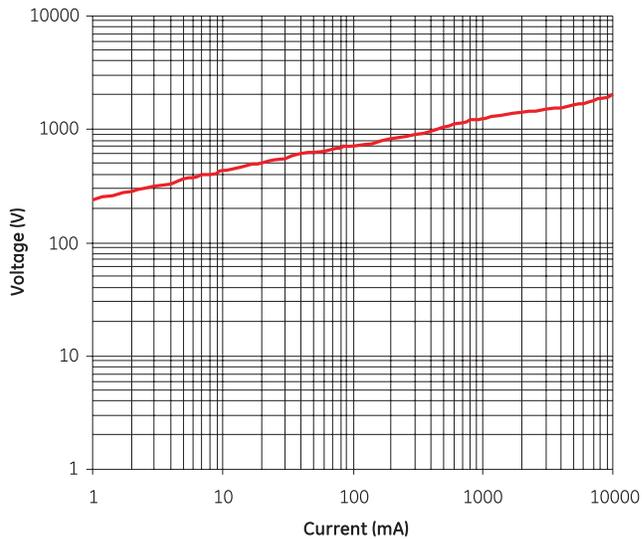

Figure 4: MOV voltage and current characteristics
3. Refer to figure 4 of GEK-45405A.